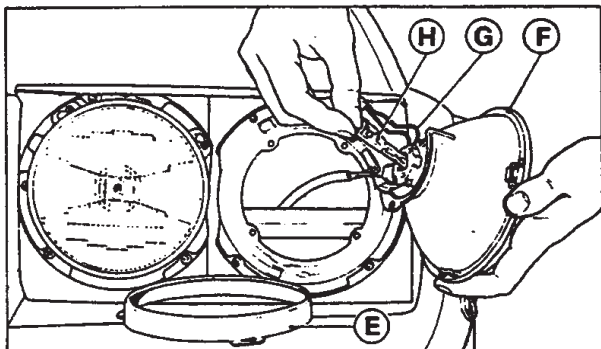

Fig. 12 - CHANGING HEADLAMP BULB.
- Loosen the screws D, withdraw the headlamp then remove the bulb H (fig. 12).